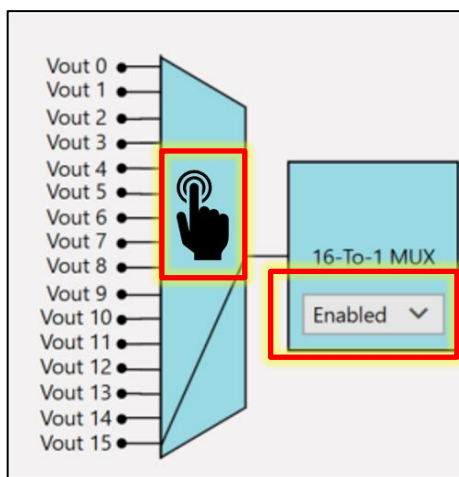

Figure 21 16-to1 MUX
4. On the Multiplexer Setting of the software as shown in Figure 21, 16-to-1 MUX, choose "Enabled". Choose Vout 15 by tapping on the space as indicated on Figure 21 until the line goes down to Vout 15.